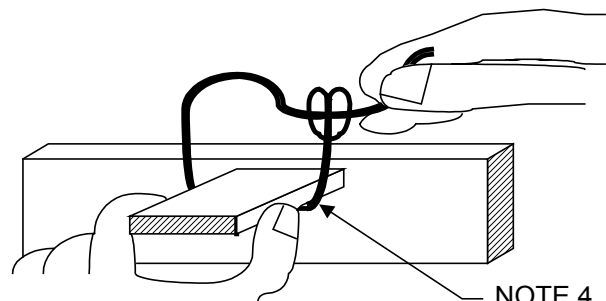

FIGURE 14d
4. HOLD IN POSITION AND PULL OUT SLACK (FIGURE 14d). AVOID CROSSED STITCHES UNDER SLAT.